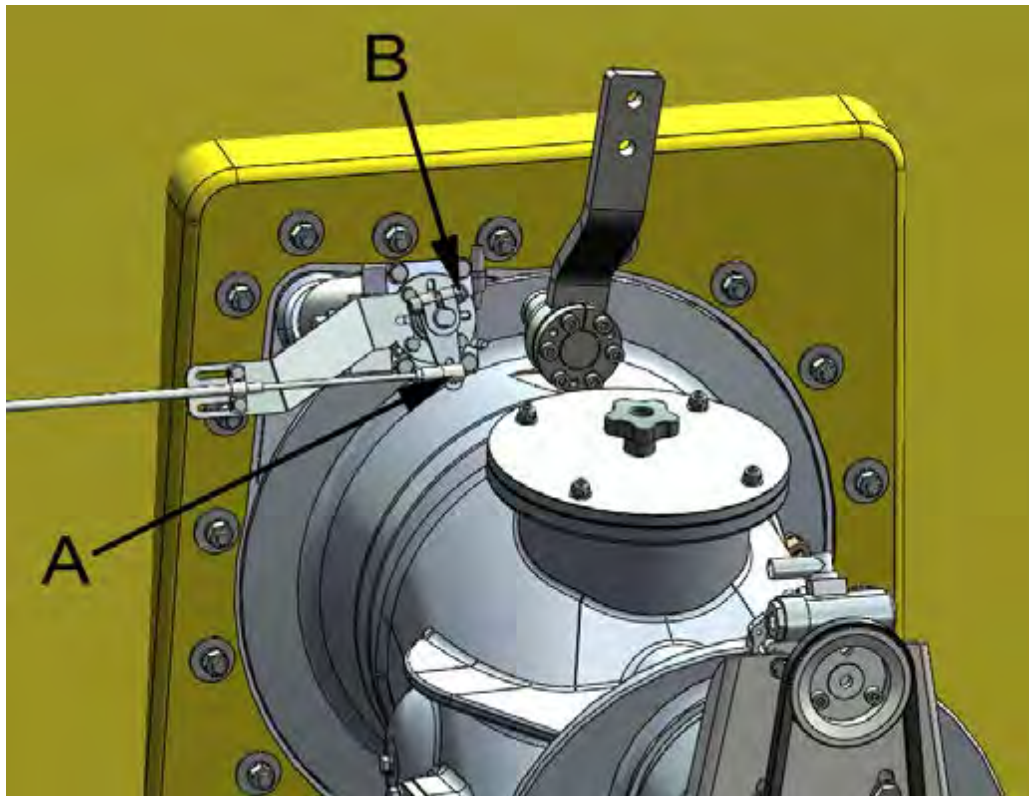

Figure 44. Removing the control cable
1. Detach the control cable from the end of the cylinder operating lever (figure 44, point A).
2. Loosen the operating lever screw (figure 44, point B) but do not pull the lever off the shaft yet.
7. Attach the control cable to the screw at the end of the operating lever (figure 44, point A).